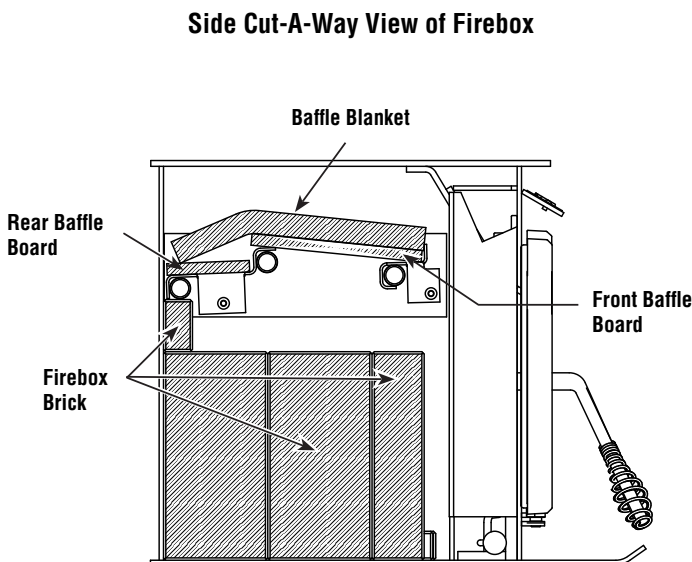

Figure 15
4. The final step of the baffle board & baffle blanket installation will be installing the front baffle boards. The front baffle boards will be the two remaining baffle boards which are the larger two baffle boards of the four baffle board kit. They will be installed with the 7-3/8" dimension from the front to rear of the firebox. Start by setting the back side of the board on the rear baffle making sure that it is placed far enough back to lift up and onto the front baffle. Next you will place the front edge of the front baffle boards on the top side of the front baffle and slide them towards the firebox front until it stops against the front baffle edge. You will do this with each front baffle board with one to the right side of the firebox and one to the left side of the firebox. Confirm that the baffle blanket is directly on top of the baffle boards and that it does not protrude beyond the front baffle or front baffle boards as shown in **Figure 15** (also see note on **Page 14**).